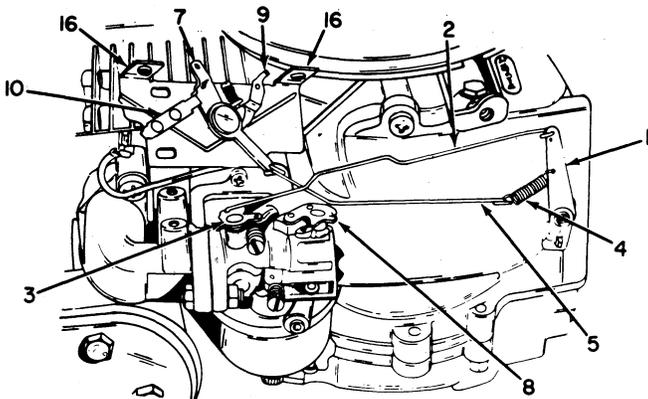

Figure 9
On the outside of the cylinder block, the governor lever (1) and an attaching clamp are mounted on the governor rod. Refer to Figure 9. This lever is connected by the throttle link (2) to the throttle lever (3) of the carburetor. The governor spring (4) is also attached to the governor lever. The spring is connected by linkage (5) to an arm on the speed control panel. Advancing the throttle setting rotates the control lever (7) and the choke control lever (9), which are made as a one-piece part. This movement moves the governor spring linkage, puts tension on the governor spring, pulls the governor lever to the left (in illustration), and opens the throttle.